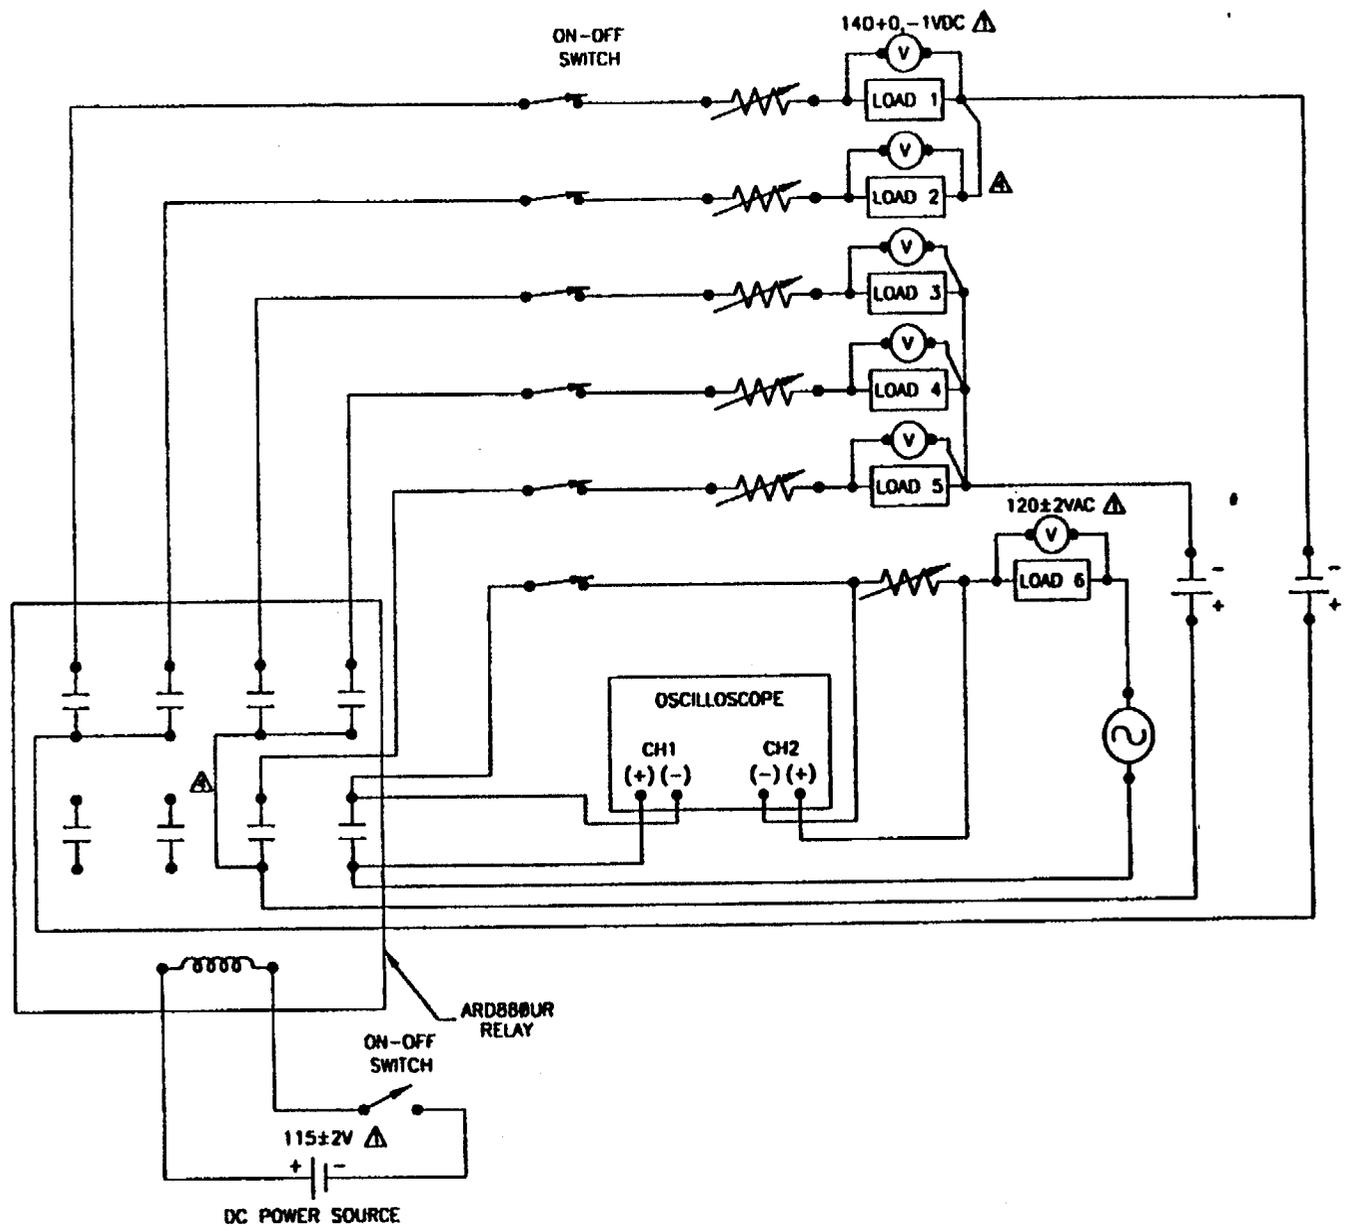

Figure 3.1 Test #1-ARD880UR DC Relay Cycling Test Circuit
- 3.1.1 This test is for the ARD880UR relay. Set up the test circuit as shown in Figure 3.1. The voltage across Loads 1 thru 5 is 140 +0, -1Vdc and across Load 6 is  $120 \pm 2\text{Vac}$ . Adjust the DC/AC source to achieve the voltages.